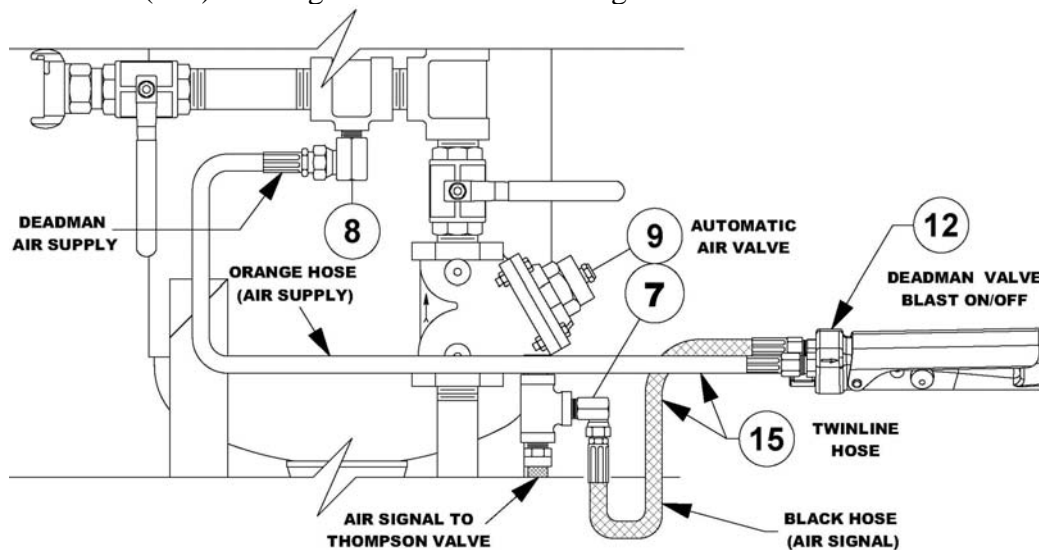

Figure 5.4 – Thompson Valve Pneumatic Blast Control System
When the deadman lever is pressed down, air supply from the orange hose of the twinline hose (#15) flows into the black hose. Air flows through the black hose to send air signals to the Auto air valve (#9) and the Thompson Valve® II (#14). When the deadman lever is released, the air signal is cut off and the remaining air in the twinline vents through the deadman. See Figure 5.4 and the drawings in Section 9.0.
5.8.1. Pneumatic Deadman System: When the pneumatic deadman lever is pressed down, air supply from the orange hose of the twinline hose (#15) flows into the black hose. Air flows through the black hose to send air signals to the auto air valve (#9) and the Thompson Valve (#14). When the deadman lever is released the air signal is cut off and the remaining air vents from the breather (#35). See Figure 5.4 and the drawing in Section 9.1.